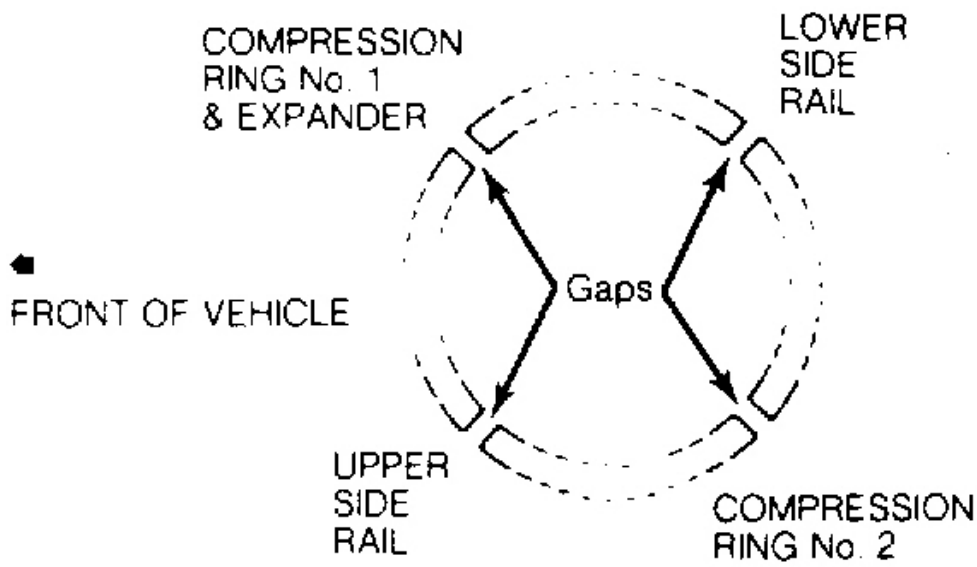

Fig. 7: Correct Piston Ring Gap Arrangement
Lubricate piston, cylinder and journal with clean engine oil. Position rings, and install ring compressor. See **Fig. 7**. Stamped mark on ring must face upward. Install piston/rod assembly in proper position with notch on piston top facing forward.
2. Position rings on piston with "T" or "N" marks facing upward. Position ring end gaps correctly. See **Fig. 7**.